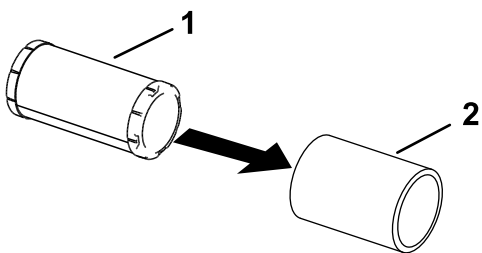

Figure 44
5. Separate the foam and paper elements (Figure 44).